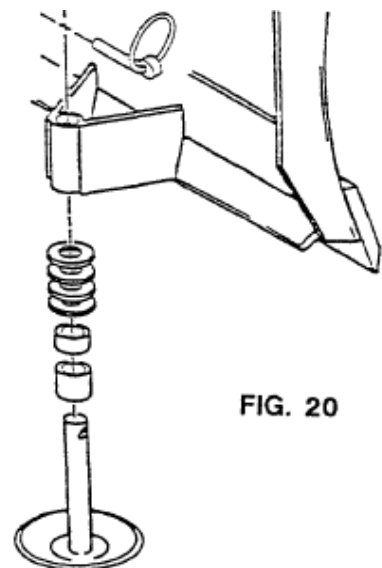

FIG. 20
- (1) Assemble the skid shoe washers and spacers on skid shoe shaft. Arrange the washers and spacers below the skid shoe holder on the rear of the blade to allow for the desired blade clearance. Secure the skid shoes to the holders with the lynch pin on both sides as shown in FIG. 20.